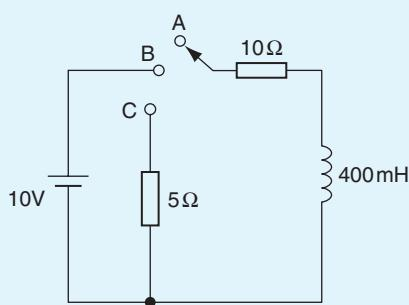

Figure 18.15
6. In the inductive circuit shown in Fig. 18.15, the switch is moved from position A to position B until maximum current is flowing. Calculate (a) the time taken for the voltage across the resistance to reach  $8\text{ V}$ , (b) the time taken for maximum current to flow in the circuit, (c) the energy stored in the inductor when maximum current is flowing, and (d) the time for current to drop to  $750\text{ mA}$  after switching to position C.